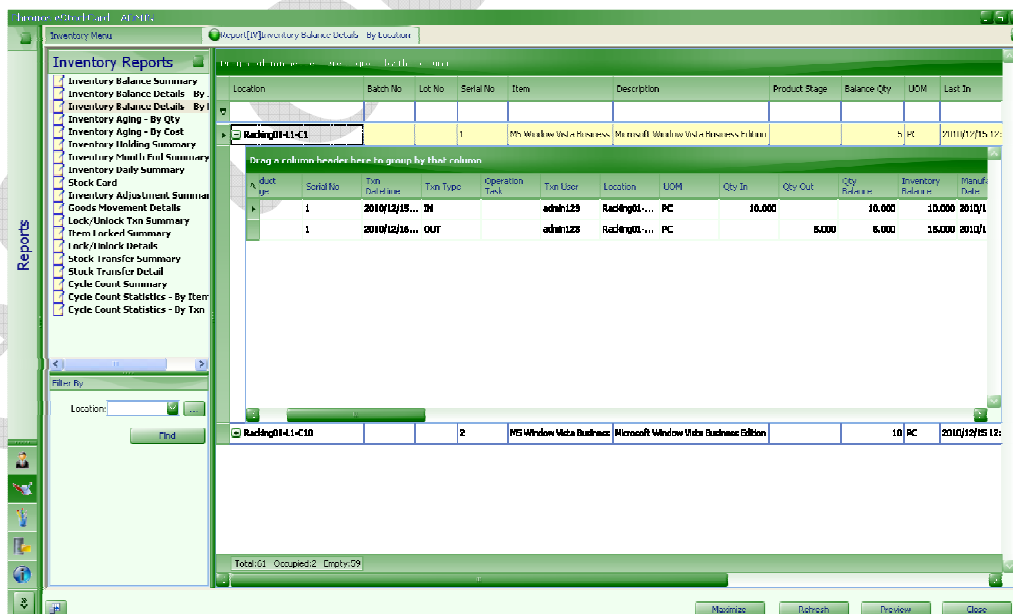

Fig. 47
Step 1 Click “Reports > Inventory > Inventory Details – By Location” (Fig. 47)